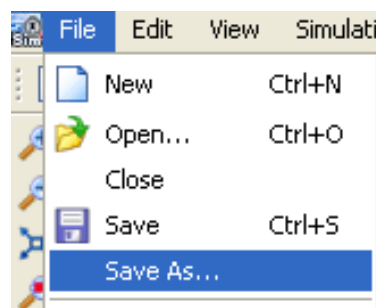

Figure 4-31: Saving the Wave Window Configuration
1. Use File > **Save As** to assign a name to the current wave configuration. (Refer to Figure 4-31.)